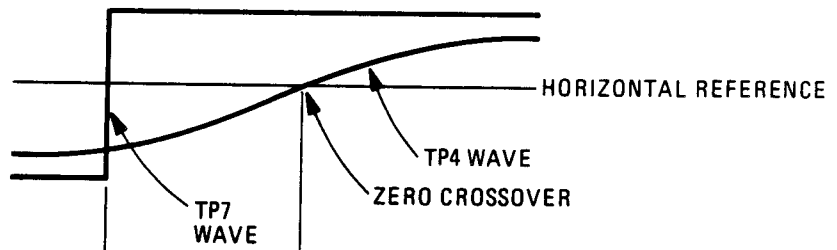

Figure 5-3. 220 Hz Zero Crossover
3. Adjust oscilloscope position controls to superimpose waveforms. Establish a horizontal grid line as DC average of the TP4 waveform by turning the 11683A MODE to STANDBY and positioning the Channel A trace on the line. Set the 11683A back to CALIBRATE. Turn the oscilloscope horizontal MAGNIFIER to X10 so that time calibration will be 50 μ s/div. See Figure 5-3.